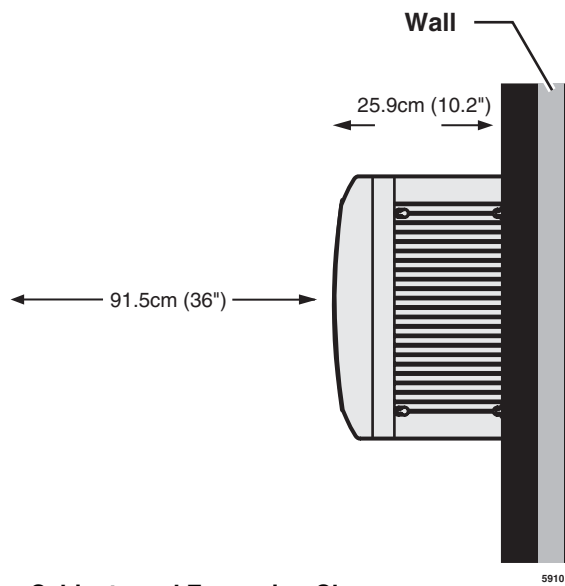

Figure 2-1 CTX100 Base Cabinets and Expansion Clearance
The minimum clearance requirements for the Strata CTX100 Base and Expansion cabinets are shown in Figure 2-1.
1. Make sure the location of the Base Cabinet meets the minimum clearance requirements specified in Figure 2-1 on Page 2-3.
Make sure the location of the Expansion Cabinet meets the minimum clearance requirements specified in Figure 2-1 on Page 2-3.